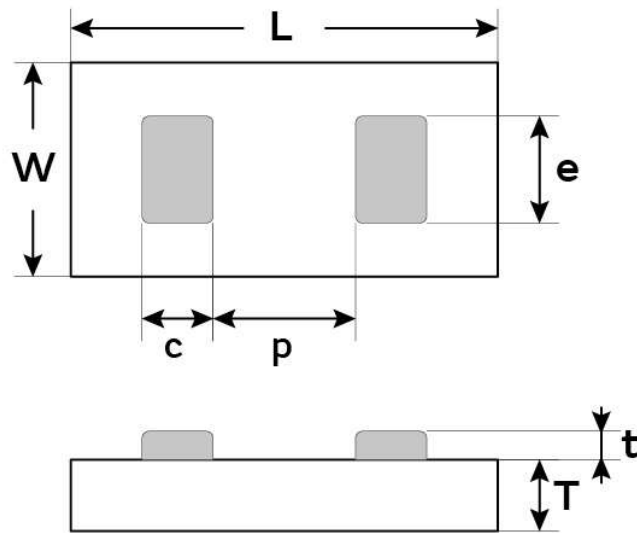

Figure 7 - Package outline drawing
(1) Other Film Frame Carrier are possible on request
(2) Al = Min 3µm Aluminium
(3) Refer to Figure 7